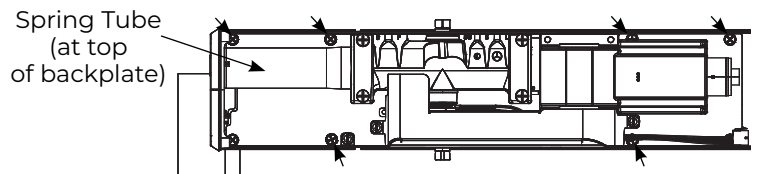

Figure 12 Remaining LAP Mounting Screws - Left Hand View
**NOTE:** When properly oriented, spring tube is at bottom on left hand backplate (Figure 12) and at top on right hand backplate.
4. For each LAP, use six (6) 1/4-20 x 1/2" Phillips head screws to secure. (Figure 12)